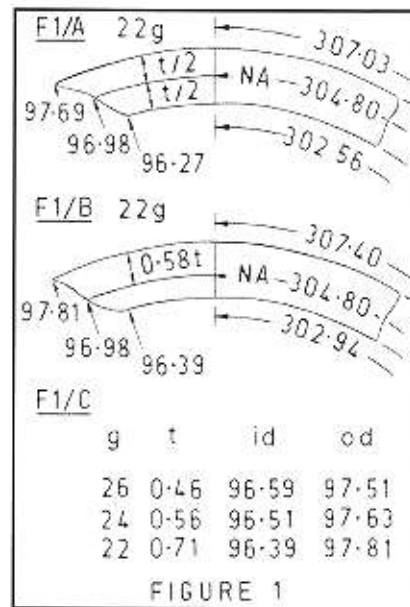

Fig 1. Effects of rolling
It is necessary to know the inner and outer diameters of the finished rolled cylinder in order to make and fit correctly sized end caps and dividers. An interesting discourse on these fitments is given at ref 1, page 129. Let us consider what happens as we roll our cylinder, the 12" (304.8) width of sheet will form its circumference. Initially, as the sheet is eased into a curve, it will act like a wide elastic beam, outer layers being stretched, and inner layers compressed. The inner and outer layers meet at the centre of thickness, this junction being known as the Neutral Axis (NA). The NA remains its original length of 304.8. Suppose now that the sheet could remain elastic until turned into a complete cylinder, then the diameter of the circle formed by the NA would be 96.98 mm, whilst inside diameter and o.d. would be 96.98 minus and plus sheet thickness, respectively, as shown in fig 1-F1/A. Such a situation could be achieved with a thin sheet of polycarbonate, whereas a thin sheet of acrylic
the outer stretched surface see fig 1-F1/B. This empirical result was derived by sampling and averaging i.d. and o.d. at 25 points along and around the cylinder after soldering the seam and adding end caps and dividers. Fig 1-F1/C shows the anticipated effect on i.d. and o.d. starting with our chosen sheet size and 3 gauges of material. It is interesting to compare tolerances for making dividers, given by ref 1 as $+0.000/-0.002$ " (0.0508), with the differences in i.d. for the three gauges at fig 1-F1/C. In practice a cylinder would be measured before turning and fitting dividers.